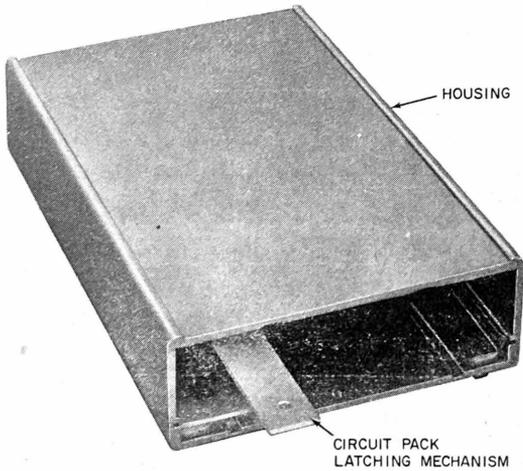

Fig. 7—DS 108F or G Housing
- (1) Remove the front and rear covers by gently squeezing on top and bottom and pulling.
- (2) Release the circuit pack latching mechanism of the data mounting (Fig. 7).